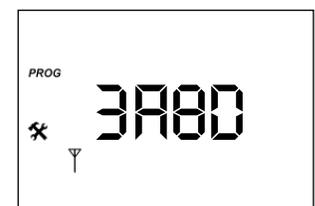

Fig. 2
- b. Press and hold ,  and  simultaneously for at least 5 seconds (but less than 10 seconds) to enter Installer Programming Mode. Communication address is displayed – four digits of: 0123456789AbcdEF (Fig. 2)